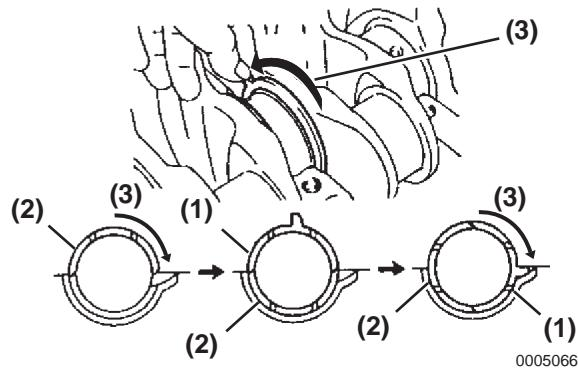

Figure 5-143
5. Push the crankshaft towards the front or rear of the cylinder block and install four thrust bearings to journal No. 4 of the cylinder block with the oil grooves facing outwards (Figure 5-143).